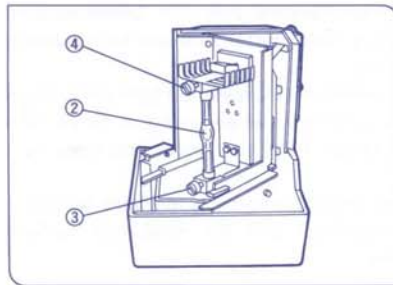

Fig. 10
3. Loosen the burner clamping screws ③ and ④ (Fig. 10) and remove the securing post. (For burner replacement, remove the used burner.)
4. Loosen the + pole clamping screw ③ and the - pole clamping screw ④ (marked UP). Mount the mercury burner ② between the terminals with its + pole downward. Then tighten the clamping screws.